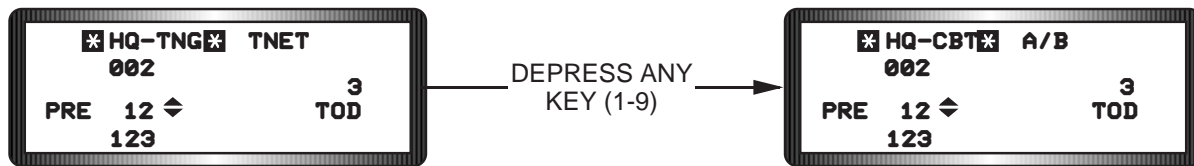

Figure 1-82 Have Quick Submode Selection
Two new HQ submodes are selectable: HQ-TNG (Have Quick Training) and HQ-CBT (Have Quick Combat). HQ-TNG allows for selection of training nets and frequency tables. HQ-CBT allows access to combat nets and frequencies. The Have Quick submodes are selectable when the asterisks are placed about the submode (HQ-TNG or HQ-CBT) and any key 1-9 is depressed (Figure 1-82).